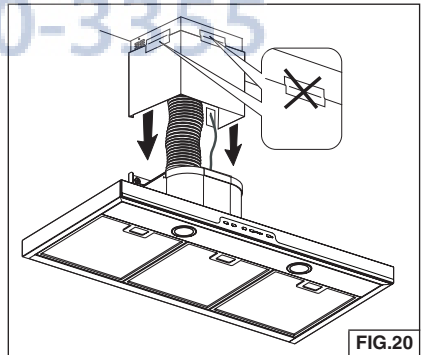

FIG.20
9. Remove tape from flues and lower into position on the hood. Fig. 20.